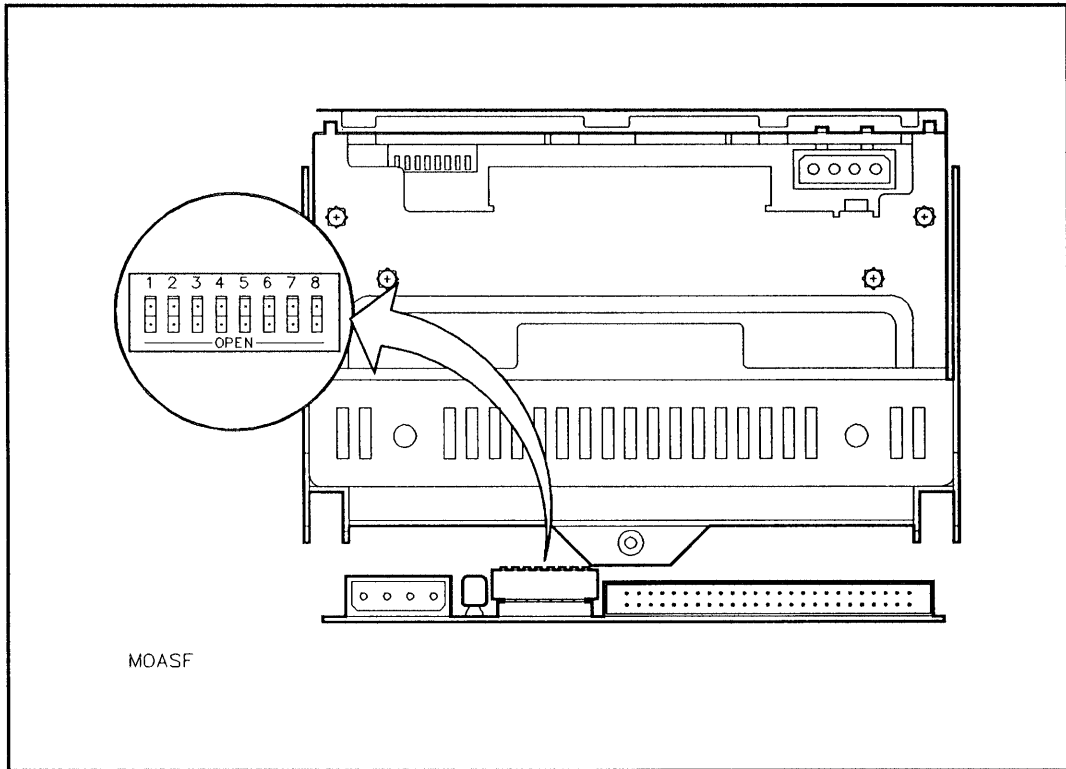

Figure 3-5. Rewritable Optical Disk Drive Address Switch
The address switch on the rewritable optical controller PCA (see Figure 3-5) enables you to select a unique SCSI address for your rewritable optical disk drive. The address switch is set to address 0 at the factory. Switches 1 through 8 on the address switch should be in the OFF (down) position when you pull the rewritable optical controller PCA out of the anti-static bag.
5. Set switches 6 through 8 to the ON (up) or OFF (down) position for the desired address (see Figure 3-5 and refer to Table 3-3).